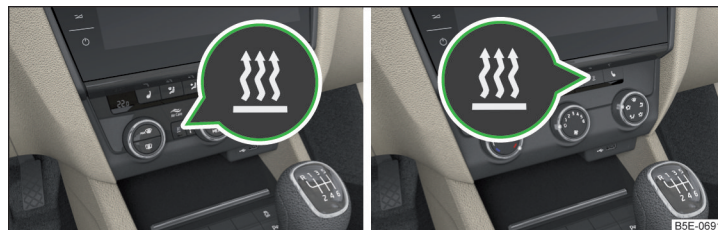

Fig. 158 Button for switching on / off (Climatronic / manual air conditioning)
- ▶ Using the  button on the operating part of the air conditioning» Fig. 158.
When automatic switching on is activated, the warning light in the  symbol button lights up for about 10 seconds after the ignition is turned off » Fig. 158.